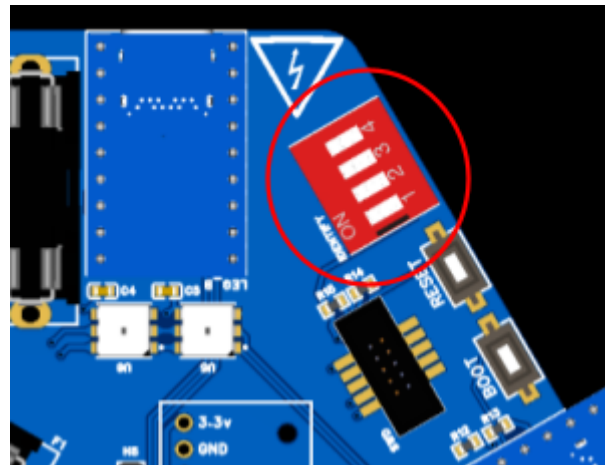

Figure 11: Mode Select DIP Switch
Mode selector which utilizes GPIO pins: G0, G1, G2, G3 to determine what mode is active. When the switch open is digital low (0), closed is pulled high to 3.3V (1). This is used to set up to 16 (2^4) different modes. Location found in figure 11.